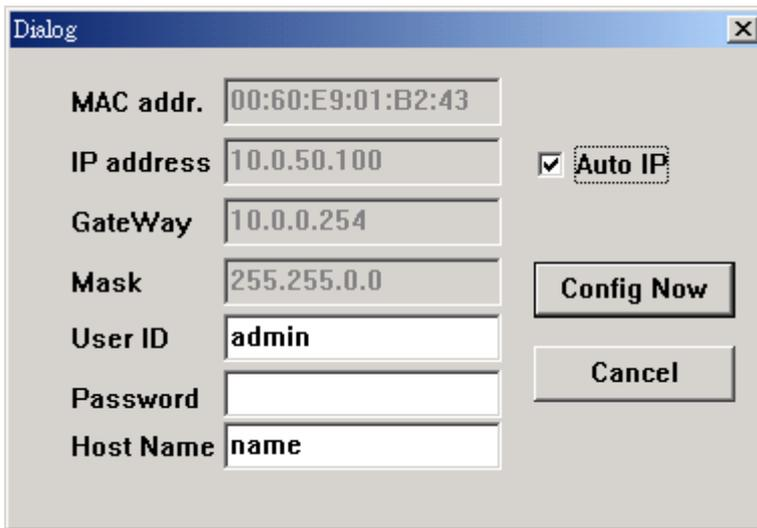

Figure 3.3. monitor.exe Auto IP Dialog Window
- >Check "**Auto IP**" (ref Figure 3.3)